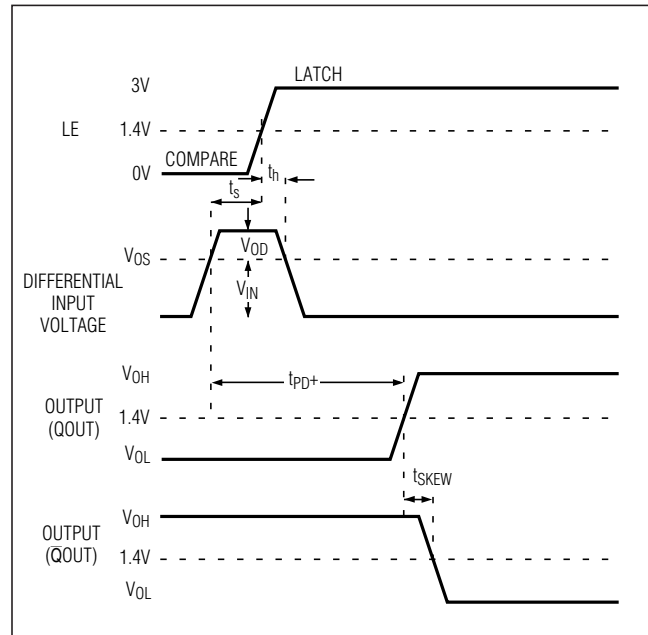

Figure 2. MAX909 Timing Diagram
- Note 12:** Latch specifications apply to MAX909 only (see Figure 2).
The MAX909 includes an internal latch, allowing the result of a comparison to be stored. If LE is low, the latch is transparent (i.e., the comparator operates as though the latch is not present). The state of the comparator output is stored when LE is high (Figure 2).